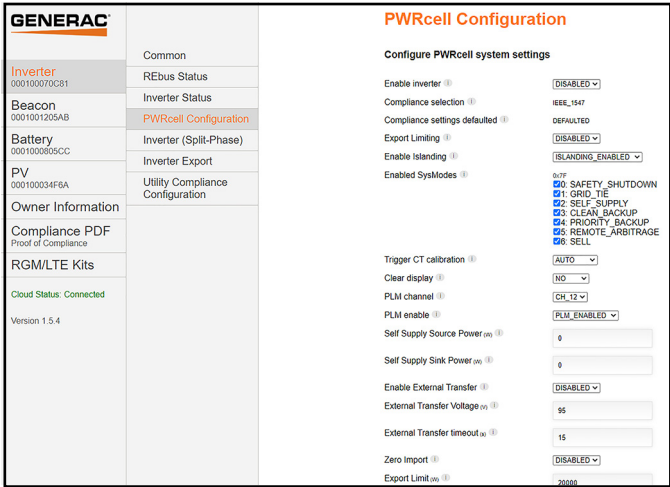

Figure 6-29. PWRcell Configuration
3. See Figure 6-29. To adjust a setting, click on it, select the desired change, and click Submit. Any changes selected to be made, will not be implemented unless Submit is selected at the end.